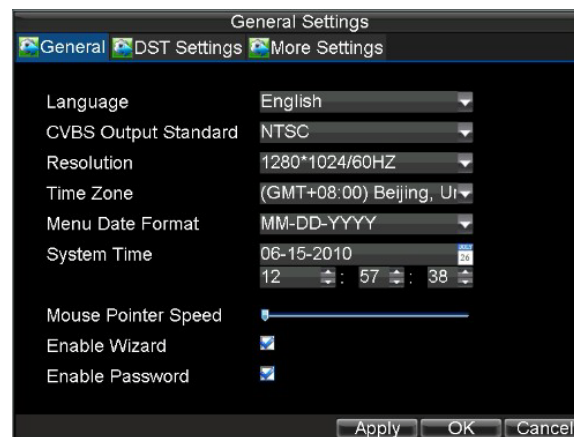

Figure 1. General Settings Menu
1. Enter the General Settings menu, shown in Figure 1 by clicking Menu > Settings > General.